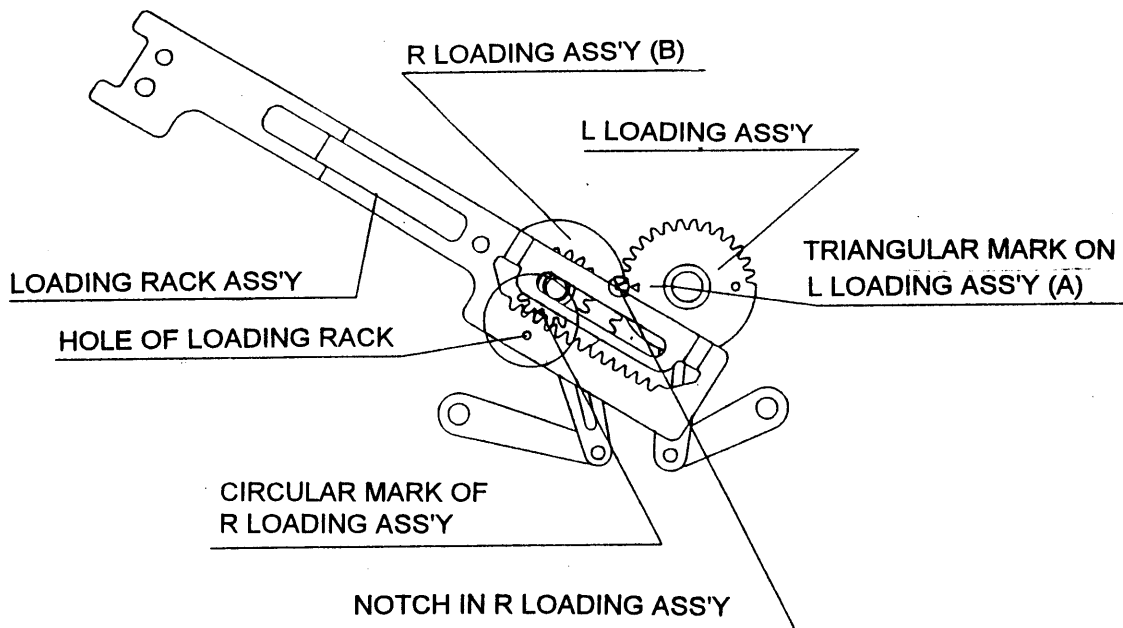

Fig. 4-5 DATUM POSITION OF LOADING RACK ASS'Y & R/L LOADING LEVER ASS'Y
e). Make sure that the triangular mark "A" on the L LOADING ASSEMBLY is aligned with the notch "B" on the R LOADING ASSEMBLY as shown in Fig. 4-5.
f). Make sure that the teeth of the LOADING RACK ASSEMBLY is aligned with the those of the R LOADING ASSEMBLY so that the hole of the LOADING RACK ASSEMBLY aligns with the circular mark on the R LOADING ASSEMBLY as shown in Fig. 4-5.